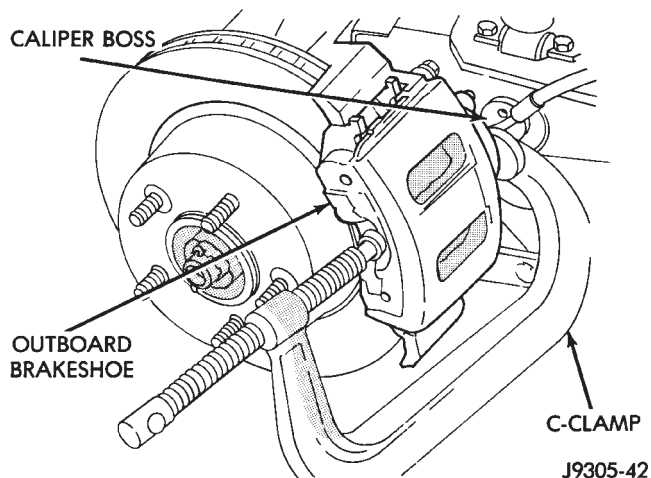

Fig. 26 Bottoming Caliper Piston With C-Clamp
(1) Raise vehicle and remove front wheel and tire assemblies.
(2) Drain small amount of fluid from master cylinder front brake reservoir with suction gun.
(3) Bottom caliper piston in bore with C-clamp. Position clamp screw on outboard brakeshoe and clamp frame on rear of caliper. Typical C-clamp attachment is shown in (Fig. 26). **Do not allow clamp screw to bear directly on outboard shoe retainer spring. Use wood or metal spacer between shoe and clamp screw if necessary.**